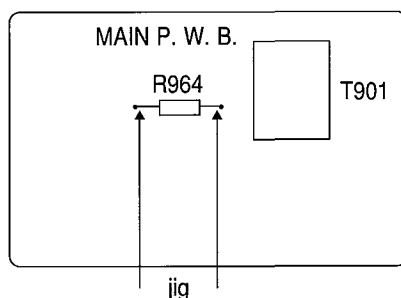
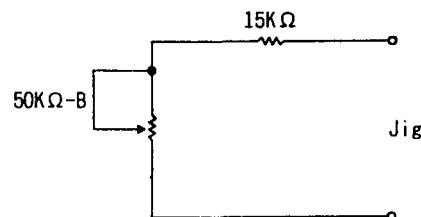

Fig. 1
Fig. 3
5. Turn the switch of the set to off and connect the jig shown in Fig.3 at both ends of R964 as shown in Fig.1.